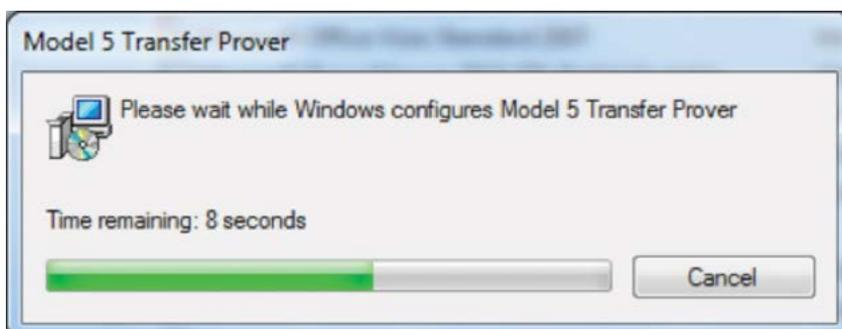

Figure 26: Status Window
5. The computer will begin to uninstall the software. The status bar noted in **Figure 26** might appear. Do NOT click on cancel.